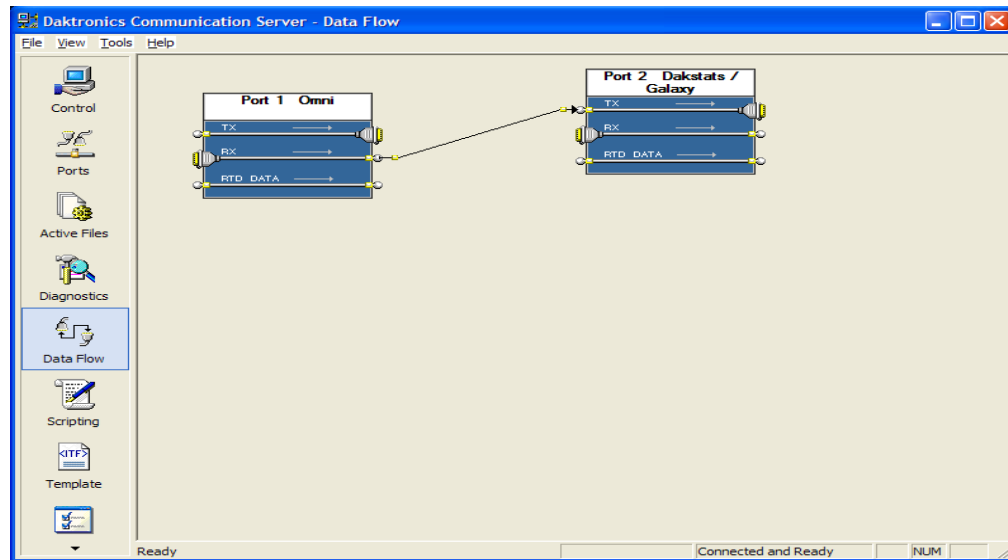

Figure 15: Daktronics Communication Server- Data Flow
3. After configuring the ports, click on the **Data Flow** tab on the left side of the DCS window. Draw the connection between the two newly created ports, with the *RX* of Port 1 going to the *TX* of Port 2 (*Figure 15*).